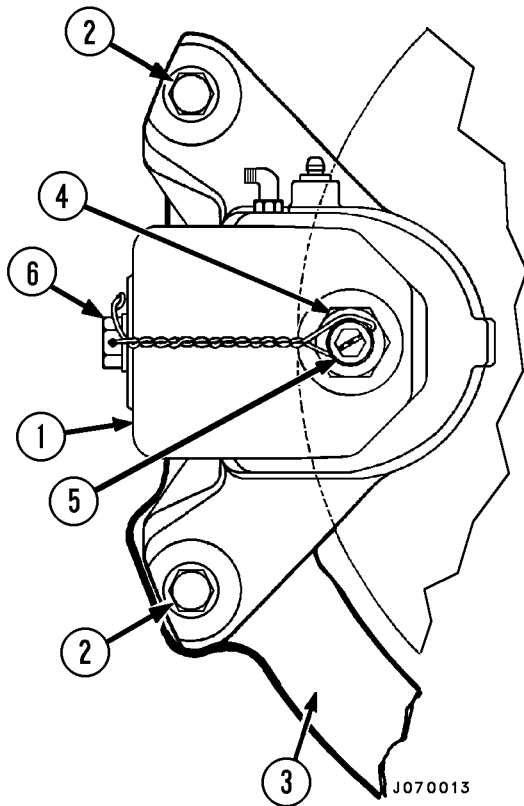

FIGURE 6-1. PARKING BRAKE
4. Remove service brake lines and brake cross-over tubes (1, Figure 6-1). Cap all lines and brake ports to prevent contamination of brake system.
5. Remove two outside capscrews (5) and two spacers (6). Remove brake lining assemblies.
6. Install two threaded alignment studs (1, Figure 6-2) in two outside capscrew locations. Remove center capscrew (10, Figure 6-1), outside torque plate (7) and spacer block (9).
5. Loosen jam nut (4, Figure 6-1) on park brake adjustment bolt (5). Loosen clamping capscrew (6) one turn and back out adjustment bolt (5) six turns to release park brake linings from outer disc.
6. Support park brake caliper and remove capscrews (2) securing caliper (1) to park brake mounting bracket (3). Remove caliper from disc.